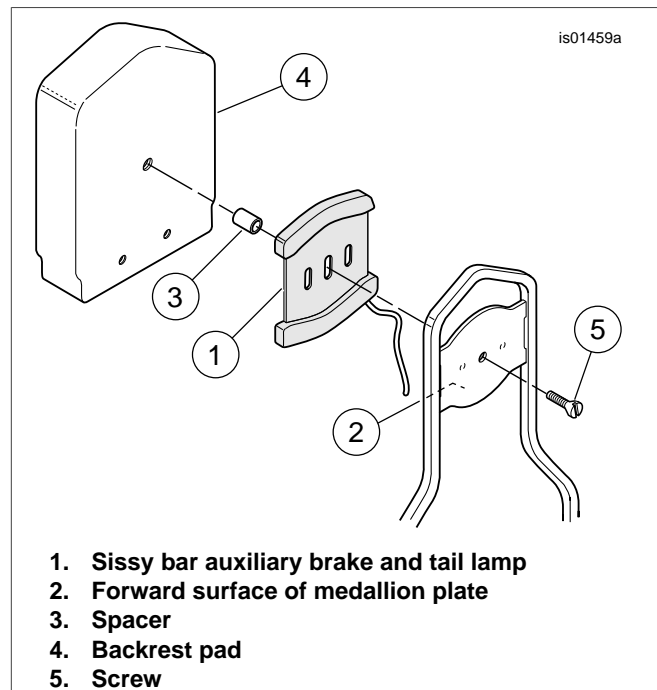

Figure 3. Light Assembly, Spacer and Backrest Pad
1. See Figure 3. Clean the forward surface (2) of the medallion plate with a mixture of 50-70% isopropyl alcohol and 30-50% distilled water. Allow to dry completely.
4. See Figure 3. Position the spacer (3) in the center hole in the lamp assembly. Place the backrest pad (4) against the lamp assembly and sissy bar. Install the screw (5) through the medallion plate and spacer to secure the backrest pad. Tighten securely.